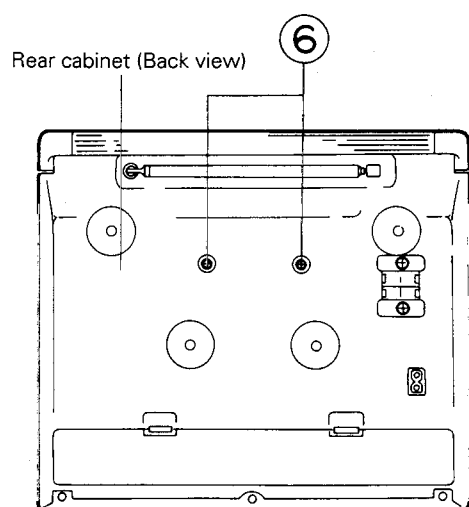

Fig. 5-8
■ CD traverse mechanism assembly (Refer to Fig. 5-8, 5-9.)
3. Remove two screws ⑥ retaining the CD traverse mechanism assembly from the back of the rear cabinet.